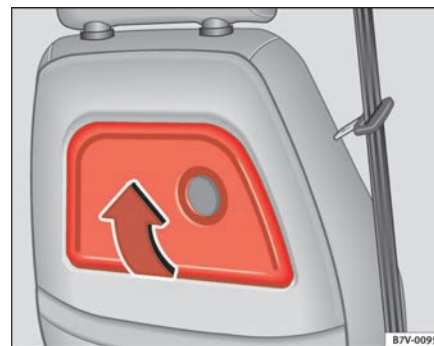

Fig. 106 Folding table on right-hand front seat
- Fold the table up in the direction of the arrow ⇒ **fig. 106** until it engages.
- Push the table down in the opposite direction of the arrow ⇒ **fig. 106** until it engages.